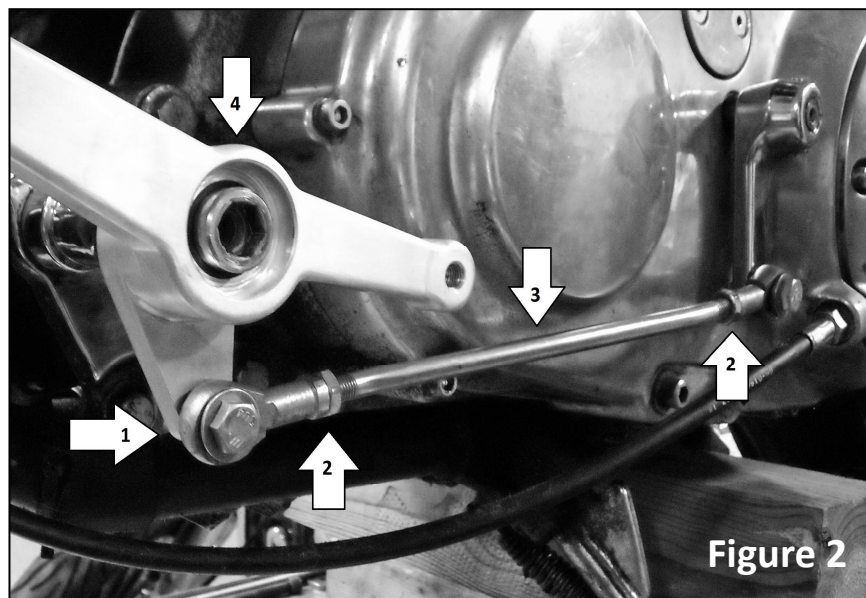

Figure 2
2. Slide the new shift lever in place over the Foot-rest Support (Figure 2 item 4). Then insert the Linkage Screw (Figure 2 item 1) into the lever. This should be in the same location of the original lever that was removed.
3. You can adjust the toe and heel height if desired. This is done when you change the length of the Shift Linkage Rod (Figure 2 item 3) by rotating the Rod Ends (Figure 2 item 2). To do so you will need to remove the Linkage Screw first (Figure 2 item 1) then rotate one or both ends. Notice that the Shift Linkage Rod is not straight but has factory bends on either end. Be sure that the Shift Linkage Rod does not interfere with the movement of the heel portion of the lever. After final test fit then use **Blue Loctite®** on the Linkage Screw (Figure 2 item 1) to help prevent it from loosening during operation.
4. Once the Linkage Screw (Figure 2 item 1) is in place make sure to tighten the Lock Nuts. (Figure 2 items 2)